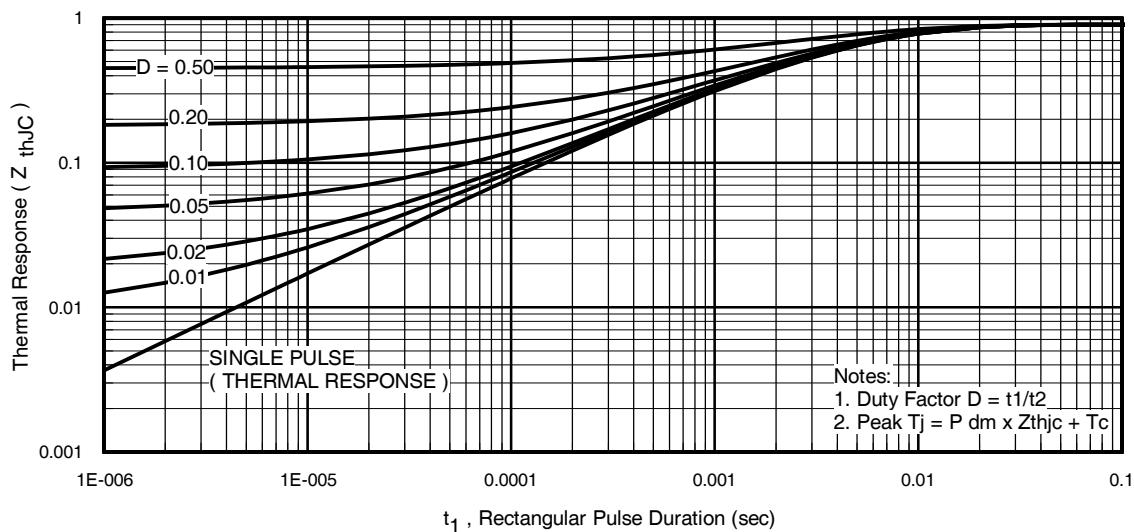
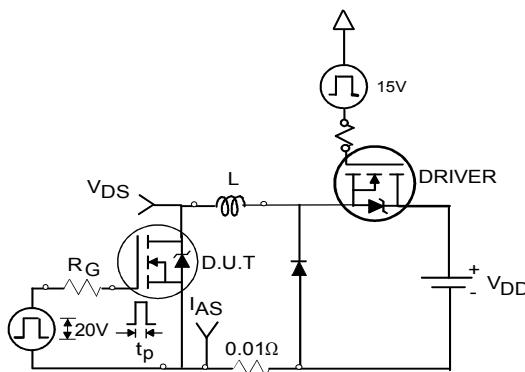

Fig 11. Maximum Effective Transient Thermal Impedance, Junction-to-Case
Fig 12a. Unclamped Inductive Test Circuit
- ① Repetitive rating; pulse width limited by max. junction temperature. (See fig.11)
- ② Limited by $T_{J\text{max}}$, starting $T_J = 25^\circ\text{C}, L = 0.08\text{mH}, R_G = 25\Omega, I_{AS} = 66\text{A}, V_{GS} = 10\text{V}$. Part not recommended for use above this value.
- ③ Pulse width $\leq 1.0\text{ms}$; duty cycle $\leq 2\%$.
- ④ $C_{oss \text{ eff.}}$ is a fixed capacitance that gives the same charging time as C_{oss} while V_{DS} is rising from 0 to 80% V_{DSS} .
- ⑤ Limited by $T_{J\text{max}}$, see Fig.12a, 12b, 15, 16 for typical repetitive avalanche performance.
- ⑥ This value determined from sample failure population, starting $T_J = 25^\circ\text{C}, L = 0.08\text{mH}, R_G = 25\Omega, I_{AS} = 66\text{A}, V_{GS} = 10\text{V}$.
- ⑦ This is only applied to TO-220AB package.
- ⑧ This is applied to D² Pak, When mounted on 1" square PCB (FR-4 or G-10 Material). For recommended footprint and soldering techniques refer to application note #AN-994
- ⑨ R_0 is measured at T_J of approximately 90°C
3. Equation below based on circuit and waveforms shown in Figures 12a, 12b.